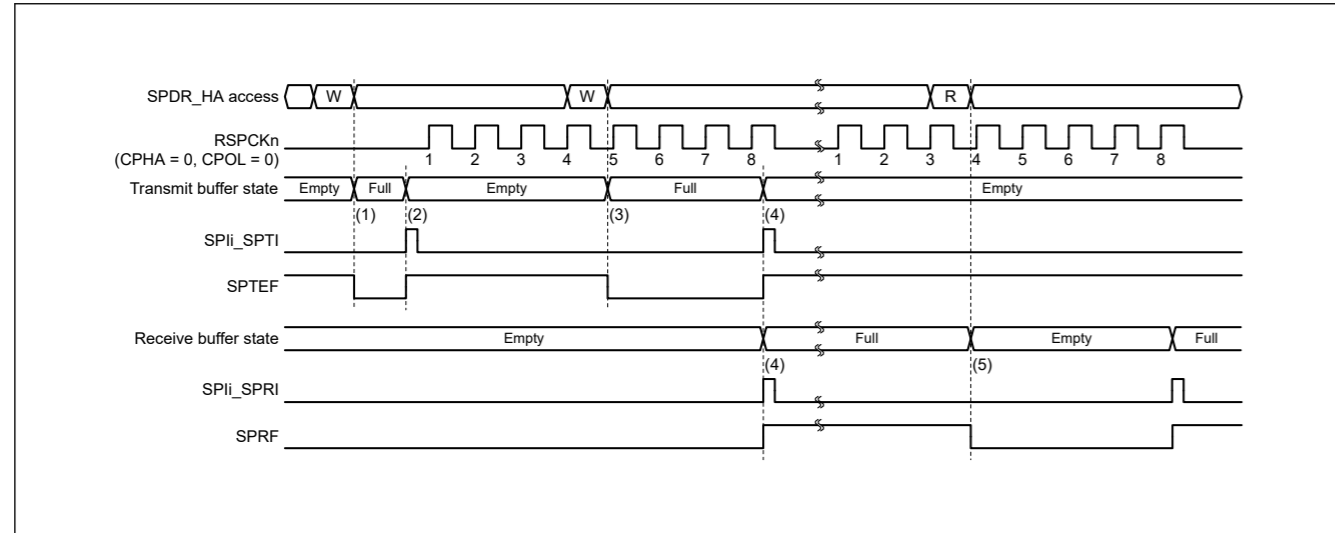
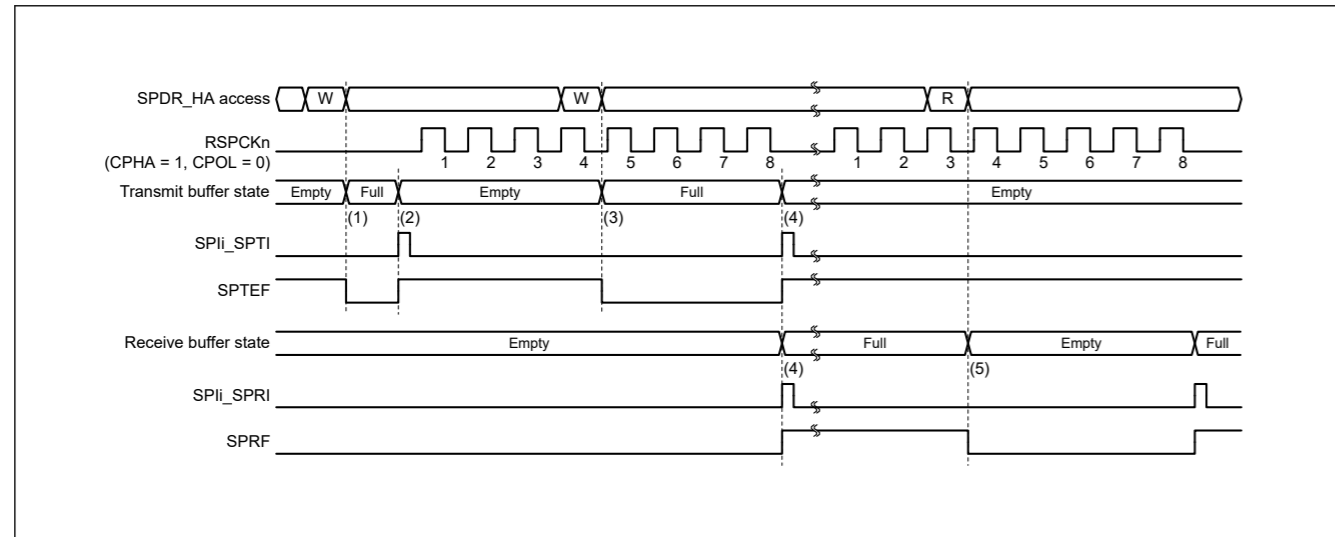

Figure 27.26 Operation example of the SPIi\_SPTI and SPIi\_SPRI interrupts when CPHA = 0 and CPOL = 0 in master mode
Figure 27.27 Operation example of the SPIi\_SPTI and SPIi\_SPRI interrupts when CPHA = 1 and CPOL = 0 in master mode
图27.26和图27.27显示了发送缓冲区空中断(SPIi\_SPTI)和接收缓冲区满中断(SPIi\_SPRI)的操作示例。这些图中显示的SPDR\_HA寄存器访问表示访问寄存器的条件，其中W表示写周期，R表示读周期。在图27.26中，当SPCR.TXMD位为0、SPCMD0.CPHA位为0、SPCMD0.CPOL位为0时，SPI执行8位串行传输。在图27.27中，SPI执行8位串行传输当SPCR.TXMD位为0、SPCMD0.CPHA位为1、SPCMD0.CPOL位为0时传输。
The operation of the SPI at timings (1) to (5) in Figure 27.26 and Figure 27.27 is as follows: